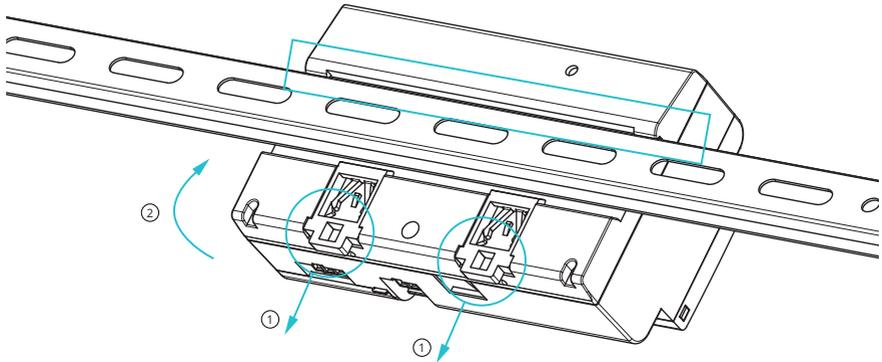

Figure 2-3 Mount AcuDC-260 Series onto DIN Rail Bracket
1. From the back of the AcuDC-260 Series, pull down the two clip locks in unison, as shown in ① of Figure 2-3.
2. Position the back of the AcuDC-260 Series so it is facing the DIN rail. Place the AcuDC-260 Series two upper mounting brackets over the top of the DIN rail groove. Fit the AcuDC-260 Series onto the bottom mounting bracket as illustrated in ② of Figure 2-3.